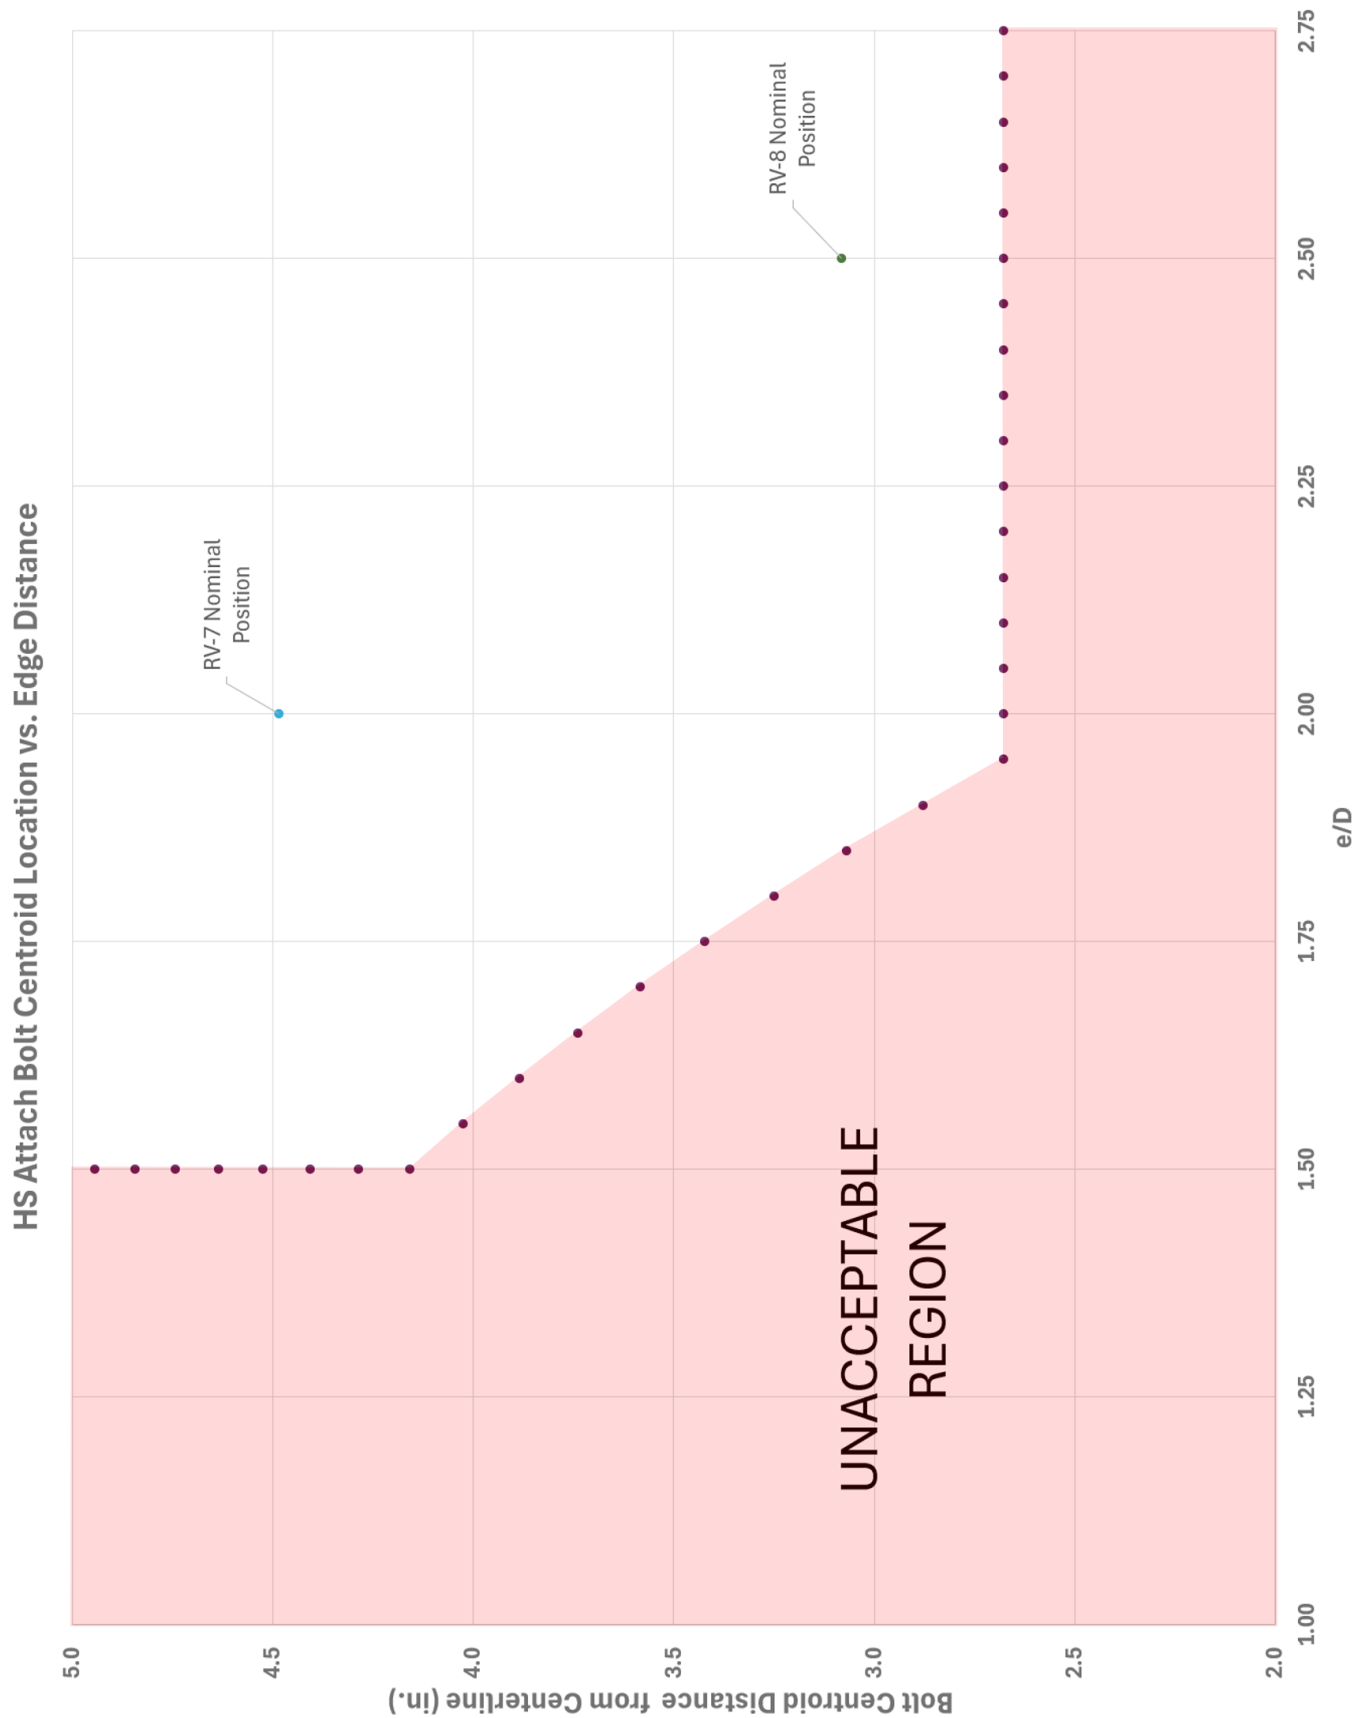

FIGURE 4: ACCEPTABLE BOLT POSITION CHART
For the edge distance between the center of the bolt position and the forward edge of the F-710B Angle and HS-714 Attach Angle, the minimum acceptable e/D may be more than 1.5 depending on the results obtained in Step 5 and the values in the chart in Figure 4.
Step 5: Plot the e/D value between the hole center and the forward edge of the attach angles from Step 3 and the bolt pattern center distance to the centerline measured in Step 4. The plotted point must be outside the unacceptable region noted in Figure 4.
For example, the bolt pattern distance from Step 4 was 4.484 inches. Assume the nominal e/D of 2. This example corresponds to the RV-7 nominal point given on the chart in Figure 4. If the point on the chart is within the unacceptable area on the chart contact Van's Aircraft for further assistance.